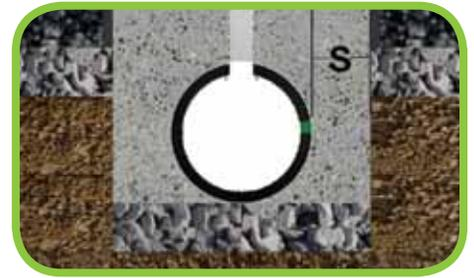

Figure 1
- **Heavy traffic (Figure 1):** Surrounded by concrete for critical loading applications. This would include frequent high-speed H-20 traffic (i.e. highways, loading docks, etc.). The dimension 'S' should be a minimum 6" (150 mm) for all heavy traffic applications. Expansion joints and concrete and/or asphalt is designed by others.